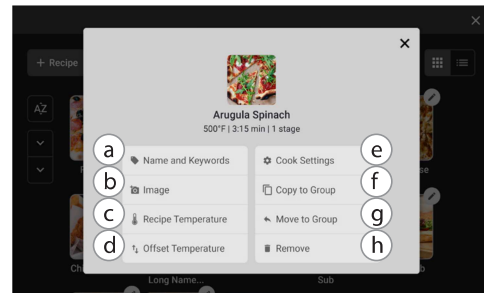

Figure 36: Edit Recipe Options
4. Select an option (Figure 36, above).